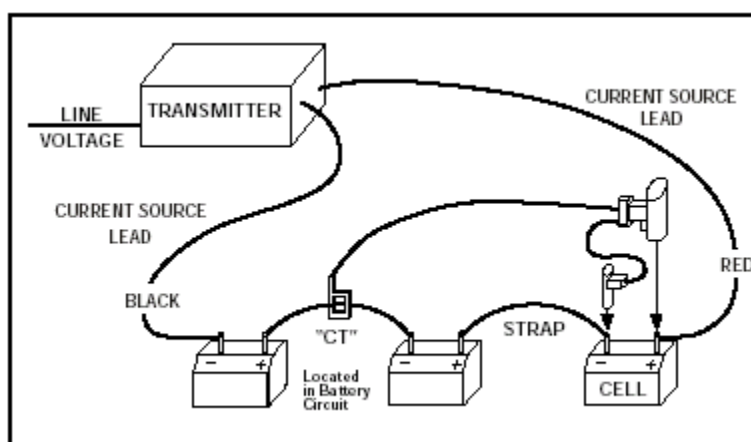

Figure 3
13. Position the Receiver at the + post of the #1 cell, and the small probe at the - post of the #1 cell. See Figure 3.